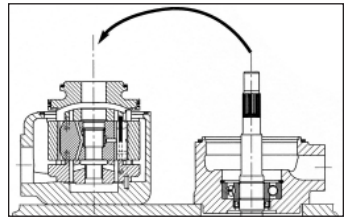

Fig. 38
8. Assemble the front cap ass'y on the housing & cartridge ass'y (Fig. 38).